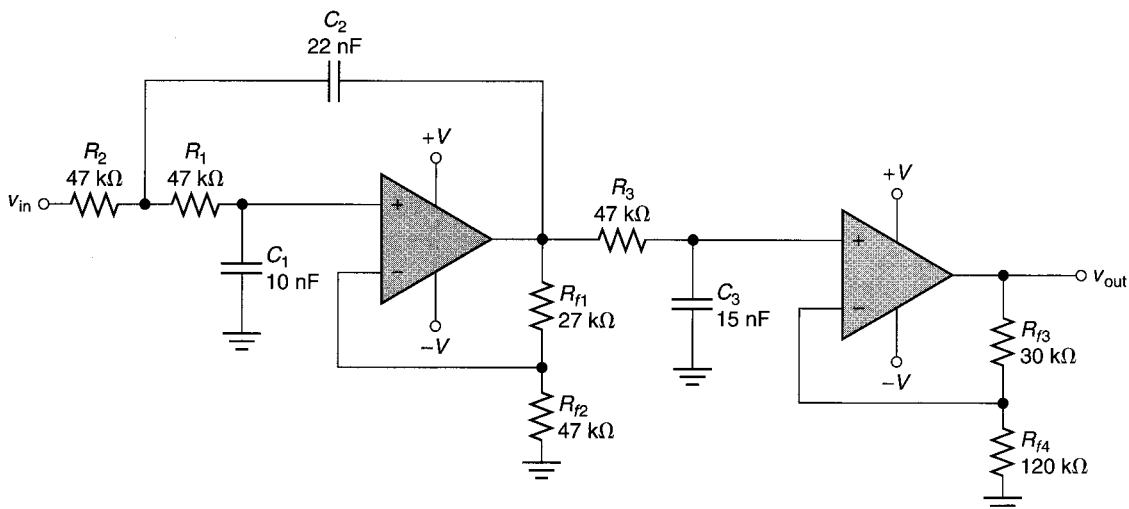

FIGURE 17.47
12. Calculate the bandwidth and closed-loop voltage gain of the filter in Figure 17.47.